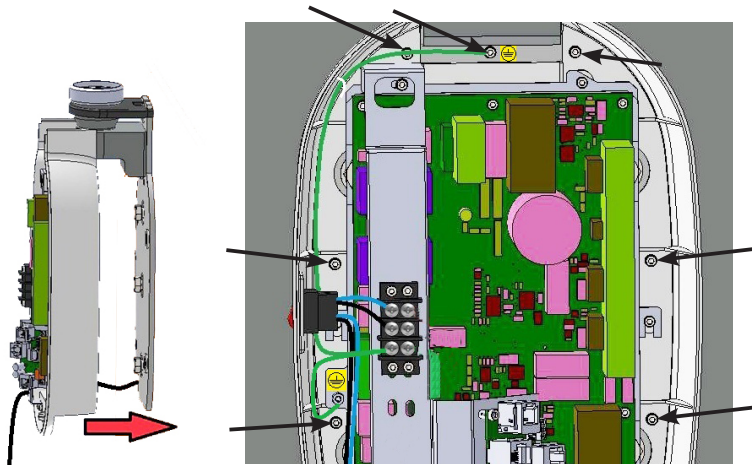

Figure 11: Fix base unit rear cover along with power board.
- Fix one M10X100 wood screw with M10 plane washer at the top most hole and tighten only upto 3/4 th length of the screw. Route the input power cable coming from the wall through the wire routing hole and fix the base plate by sliding from bottom side and fix the remaining three M10X100 wood screws as shown in Figure 11 .
- Fix the base unit rear cover along with power board to the base plate with six M3X6 HSHC screws using 2.5mm allen key as shown in Figure 11 . Fix the ground wire coming from terminal block to the ground location with M3x6 HSHC screw and M3 plane washer using 2.5mm allen key as shown in Figure 11 .